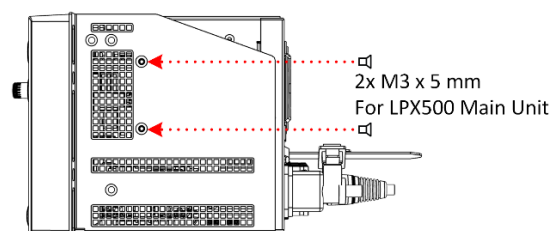

Figure 2: Single LPX500 Main Unit Mounted in Rack Tray
- 3 Insert two M3 x 5 screws into the two countersunk holes in the bottom of the tray, securing the unit to the tray. See Figure 2, Bottom View.
- 5 Insert two M3 x 5 screws into the two countersunk holes in the bottom of the tray, securing the blanking panel to the tray. See Figure 2, Bottom View.
- 7 Insert one M3x5mm screw into the mesh spacer bracket from the underside of the rack tray to secure the bracket in place. See Figure 2, Bottom View.
- 9 Insert two M3 x 5 screws into the two countersunk holes in the right-hand side of the tray, securing the unit to the side of the tray. See Figure 2, Right Side View.
- 10 Insert one M3 x 5 screw into the countersunk hole in the left-hand side of the tray, securing the extended monitor to the side of the tray. See Figure 2, Left Side View.